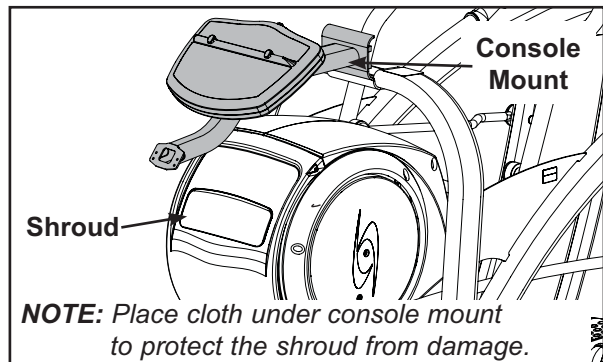

Figure 16
- A. Lay the console mount on the Arc Trainer as shown in Figure 16. **NOTE:** This will allow easier access to route the cable assembly.